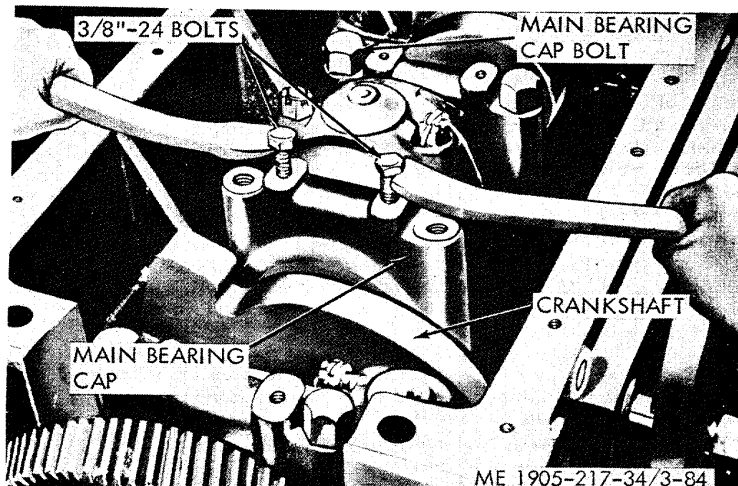

Figure 3-84. Main bearing cap, removal.
- (1) Drain cooling and lubricating systems (TM 55-1905-217-12, para 3-2).
- (2) Remove oil pump (para 3-11).
- (3) Remove main bearing caps (fig. 3-84)